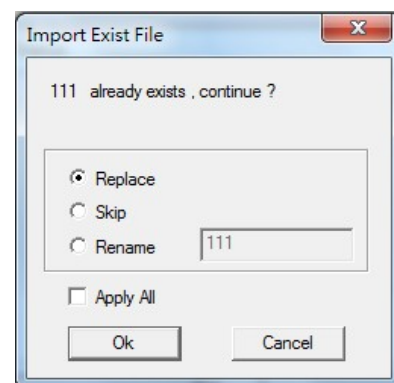

Fig. 1.1.38
1. Click on “File”→ “Configuration Import/Export” to bring out dialog seen as fig. 1.1.38.
3. If file is already existed, will pop-up a dialog to confirm to replace, skip, or rename the file. See fig. 1.1.38.